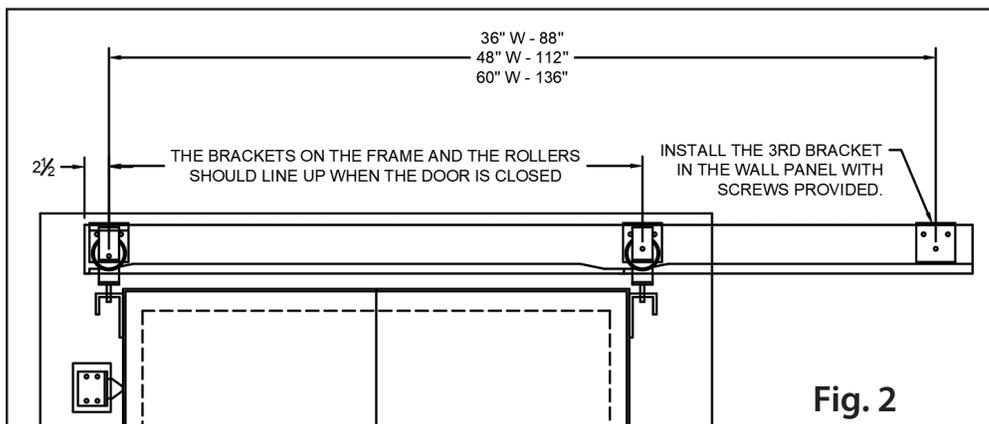

Fig. 2
**Figure 2:** There are three *Mounting Brackets* (36" & 48") that hold up the rail, two are already installed to the door frame. Install the third with the screws supplied. (60" door will have five *Mounting Brackets*, three have already been installed.)